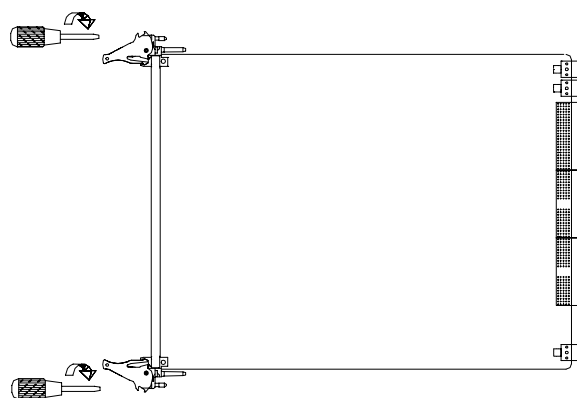

Figure 3-8 Installing a board (3)
- 9) Tighten the screws clockwise on the front panel, as shown in Figure 3-8.